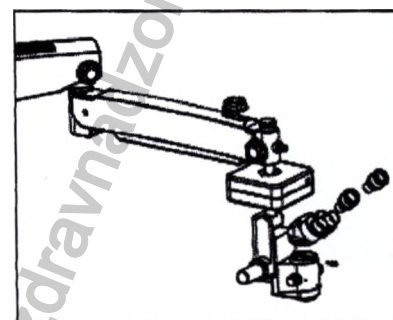

Fig. 12
6.5. Install binocular tube and eyepieces on the head. Fix binocular tube with the help of lock. See figure 12.
6.10 Pass optic fiber cable into the hole, situated on the back wall of the head, pushing it through slightly as it's shown on figure 12. Audible click proves that the cable was installed correctly.